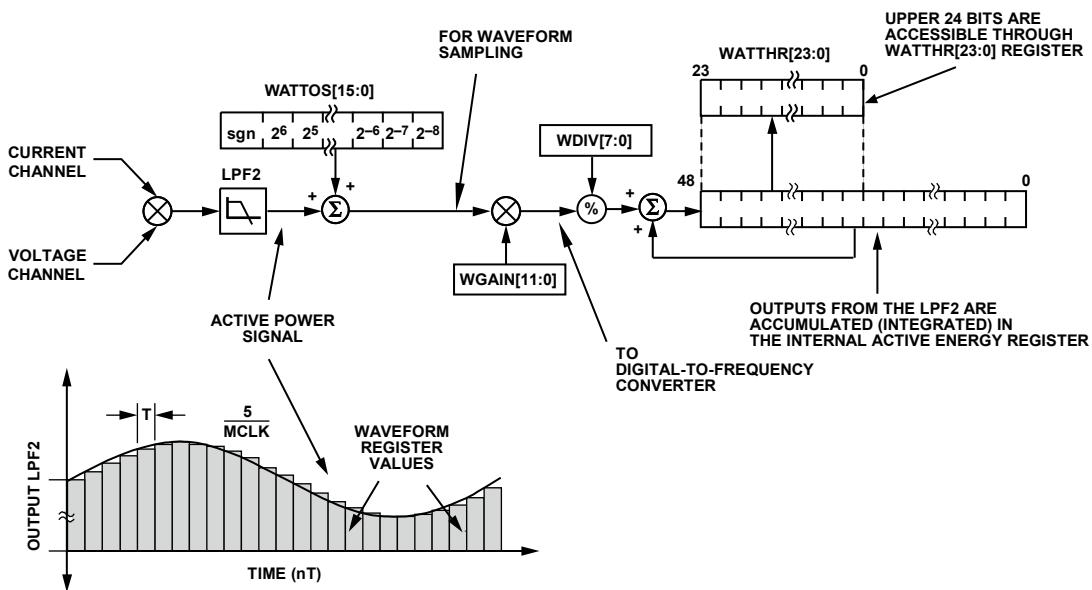

Figure 44. Active Energy Calculation
Figure 44 shows the signal processing chain for the active power calculation in the ADE5166/ADE5169/ADE5566/ADE5569. As explained previously, the active power is calculated by filtering the output of the multiplier with a low-pass filter. Note that when reading the waveform samples from the output of LPF2, the gain of the active energy can be adjusted by using the multiplier and watt gain register (WGAIN[11:0]). The gain is adjusted by writing a two's complement 12-bit word to the watt gain register. Equation 10 shows how the gain adjustment is related to the contents of the watt gain register.
The discrete time sample period (T) for the accumulation register in the ADE5166/ADE5169/ADE5566/ADE5569 is 1.22 μ s (5/MCLK). In addition to calculating the energy, this integration removes any sinusoidal components that may be in the active power signal. Figure 44 shows this discrete time integration or
The output of the multiplier is divided by the value in the WDIV register. If the value in the WDIV register is equal to 0, the internal active energy register is divided by 1. WDIV is an 8-bit unsigned register. After dividing by WDIV, the active energy is accumulated in a 49-bit internal energy accumulation register. The upper 24 bits of this register are accessible through a read to the active energy register (WATTHR[23:0]). A read to the RWATTHR register returns the content of the WATTHR register, and the upper 24 bits of the internal register are cleared. As shown in Figure 44, the active power signal is accumulated in an internal 49-bit signed register. The active power signal can be read from the waveform register by setting the WAVMODE register (0x0D) and setting the WFSM bit in the Interrupt Enable 3 SFR (MIRQENH, 0xDB). Like the current and voltage channels waveform sampling modes, the waveform data is available at sample rates of 25.6 kSPS, 12.8 kSPS, 6.4 kSPS, or 3.2 kSPS.